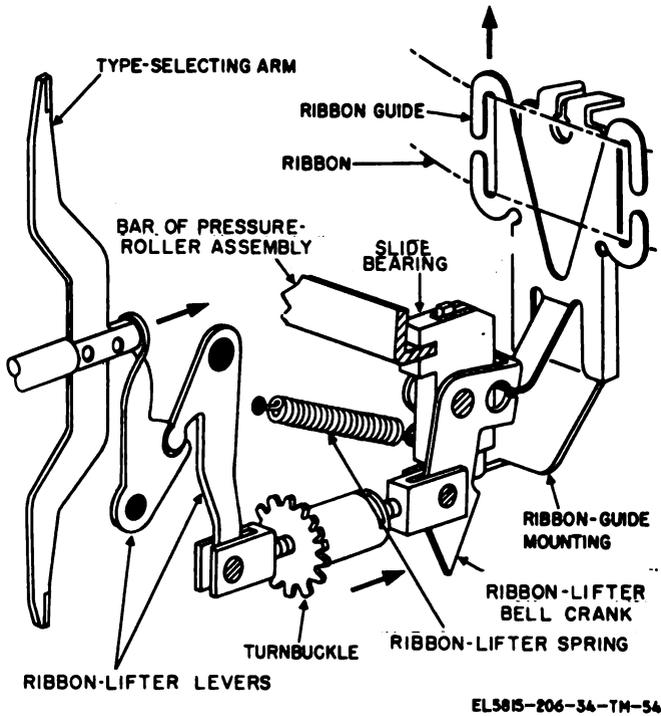
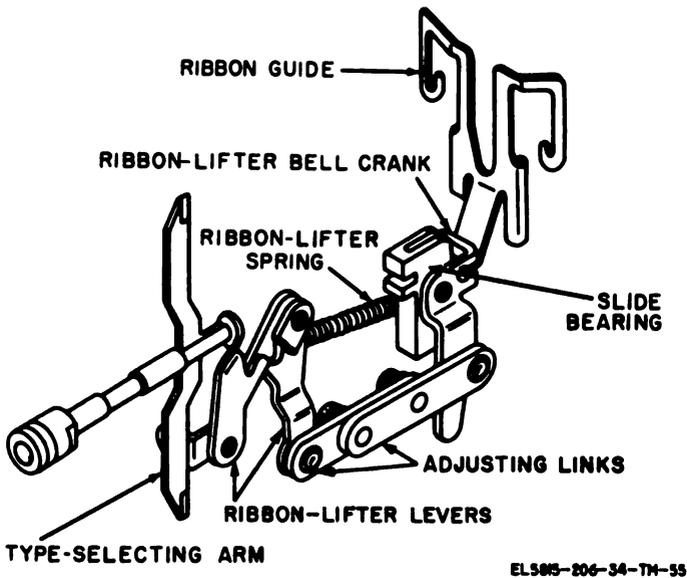

Figure 2-54. Ribbon lifter mechanism (TT-4A/TG and TT-698/TG).
Figure 2-55. Ribbon lifter mechanism (TT-4B/TG, TT-4C/TG, TT-335/TG, TT-537/G, TT-698A/TG and TT-698B/TG).
The ribbon moves upward an instant before a type-bar strikes the platen and returns to its normal lower position after the character is printed. The ribbon is threaded through the ribbon guide (fig. 2-54 and 2-55) and moves upward and downward with the guide as described below.
a. Each time the type selecting arm moves forward (para 2-21), it causes the ribbon-lifter levers to rotate slightly about their pivot points. When this occurs, the turnbuckle of the TT-4A/TG and TT-698/TG (fig. 2-54) or the adjusting links of the TT-4B/TG, TT-4C/TG, TT-335/TG, TT-537/G, TT-689A/TG and TT-698B/TG (fig. 2-55) moves forward, pivoting the ribbon-lifter bell crank, and the ribbon guide and ribbon move upward.